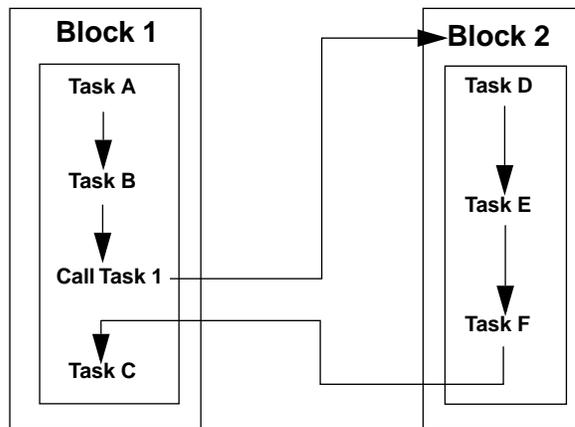

Figure 7. Using a Call Task
- **Call task** - A Call task can start only a top-level Block task. The Call task waits for the Block task to start and complete before running its control list. For example, in Figure 7, Call Task 1 starts Block 2. Assuming that only Block 1 is initially active, the tasks run in the following order: Task A, Task B, Task D, Task E, Task F, Task C.